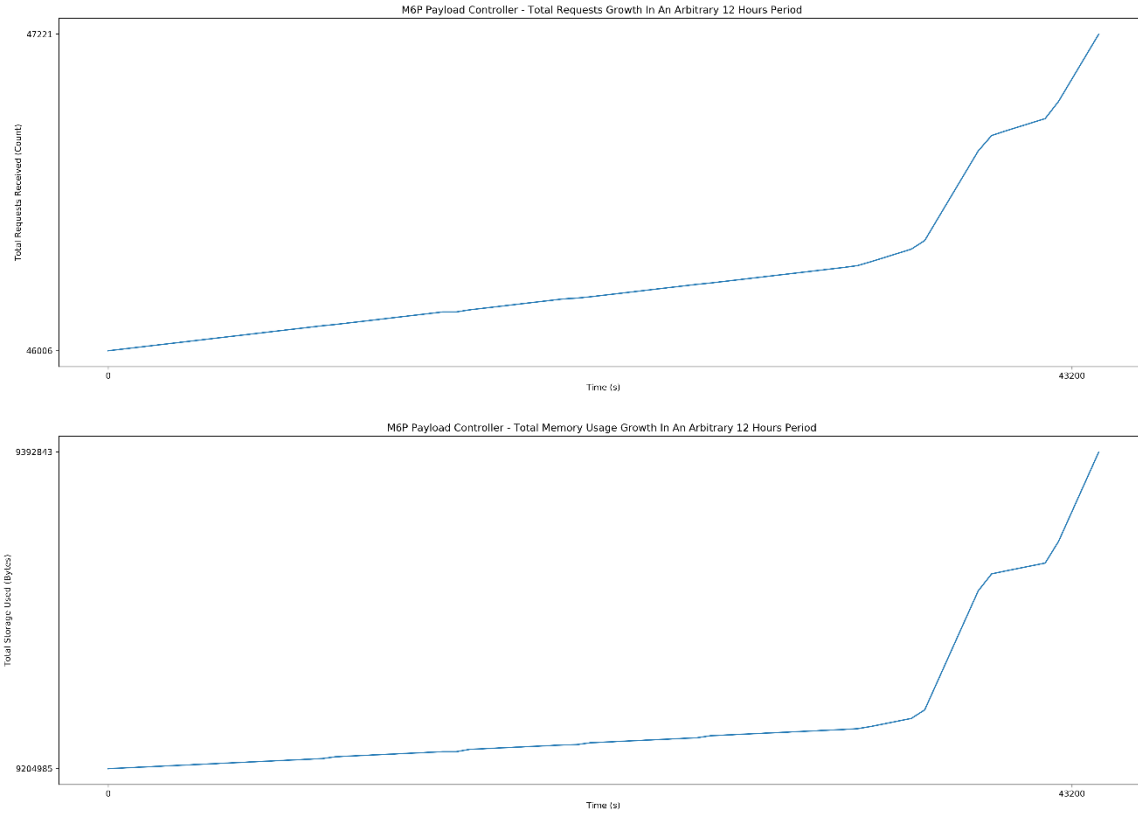

Figure 4. Plotted payload controller performance from the M6P mission.
The data from M6P Payload Controller (PC) is shown in Figure 4. As it can be seen, the payload controller behaves nominally, executing submitted requests and storing the payload data in a synchronous manner.